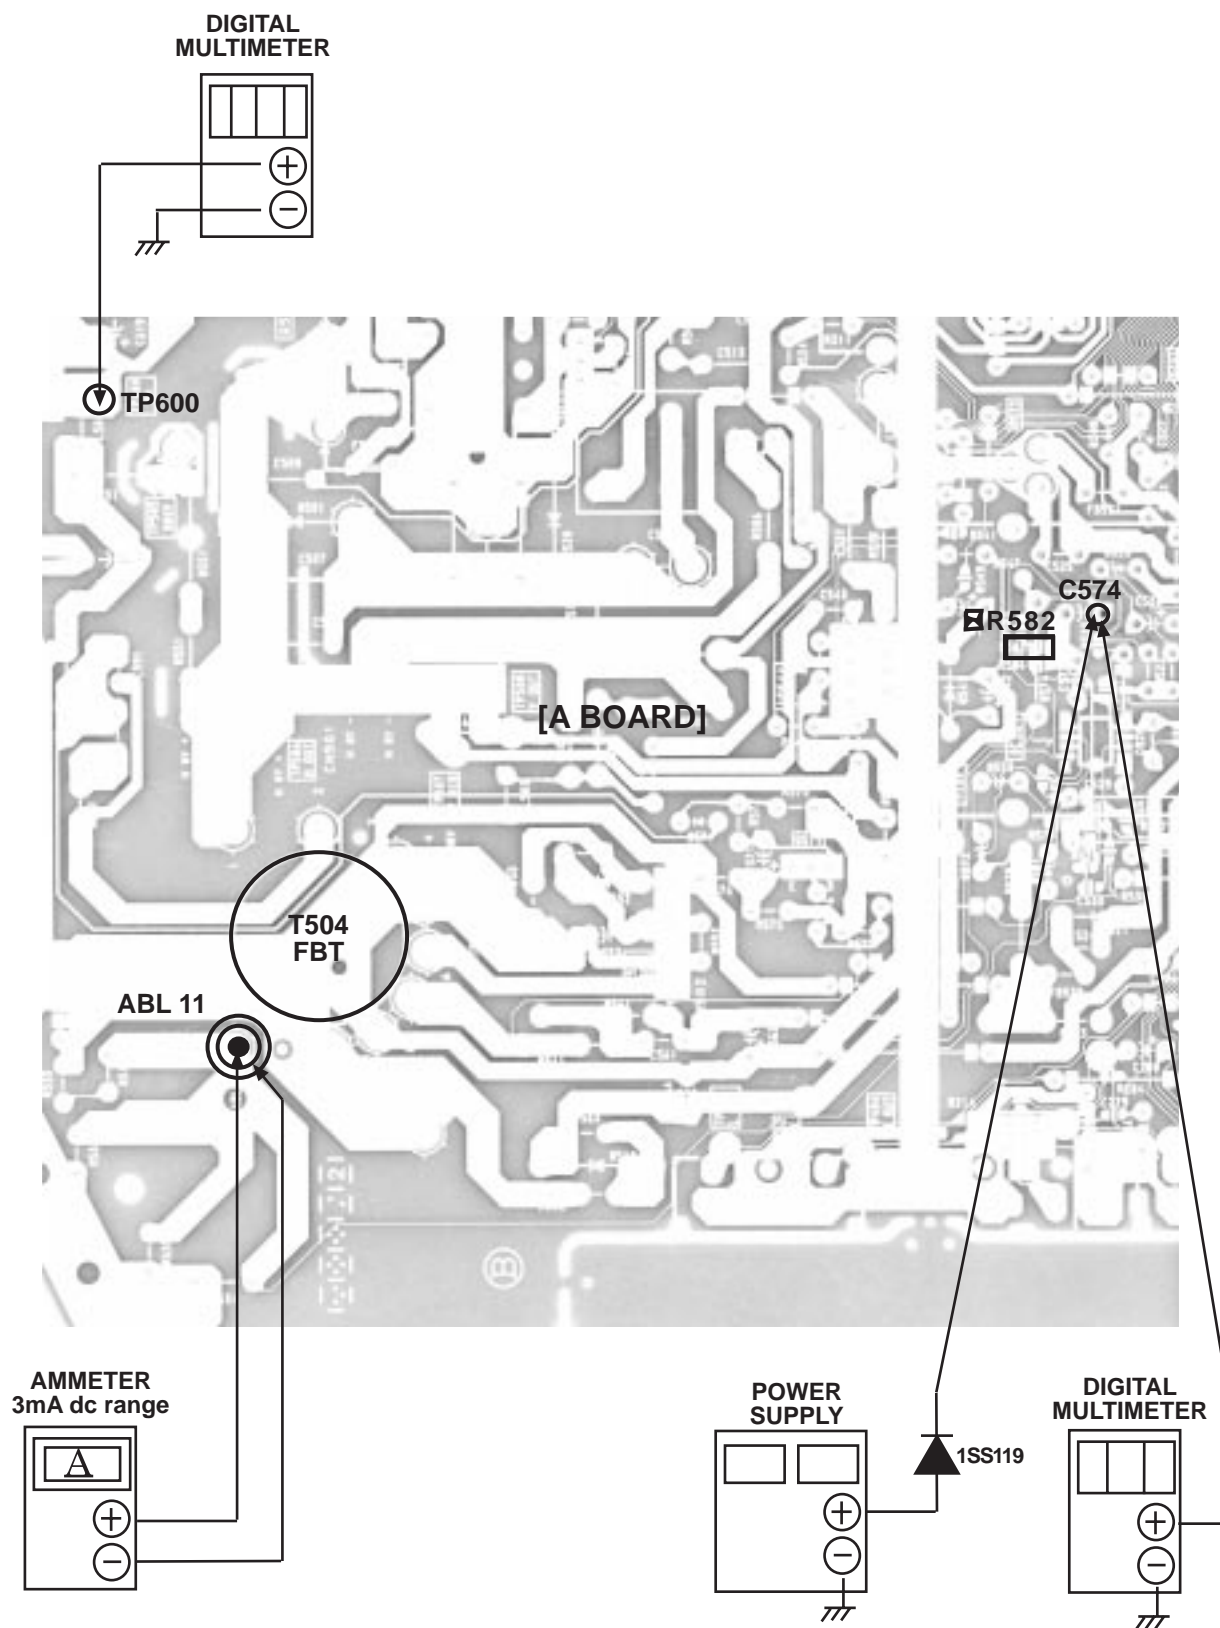

Figure 1.0
- 1) Connect the current meter between Pin 11 of the FBT (T504) and the PCB land where Pin 11 would normally attach. (see figure 1.0 on next page)
- 4) Connect the Digital Voltmeter and the DC power supply via diode 1SS119 to C574 (+). (See figure 1.0 on next page.)